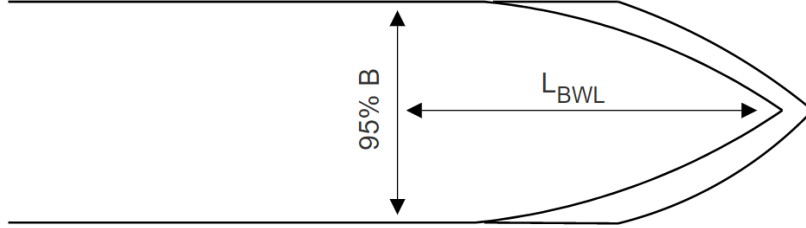

Figure 2.2: Definition of L_{BWL}
- L_{BWL} : Length of the bow on the water line to 95% of maximum beam as shown in Figure 2.2